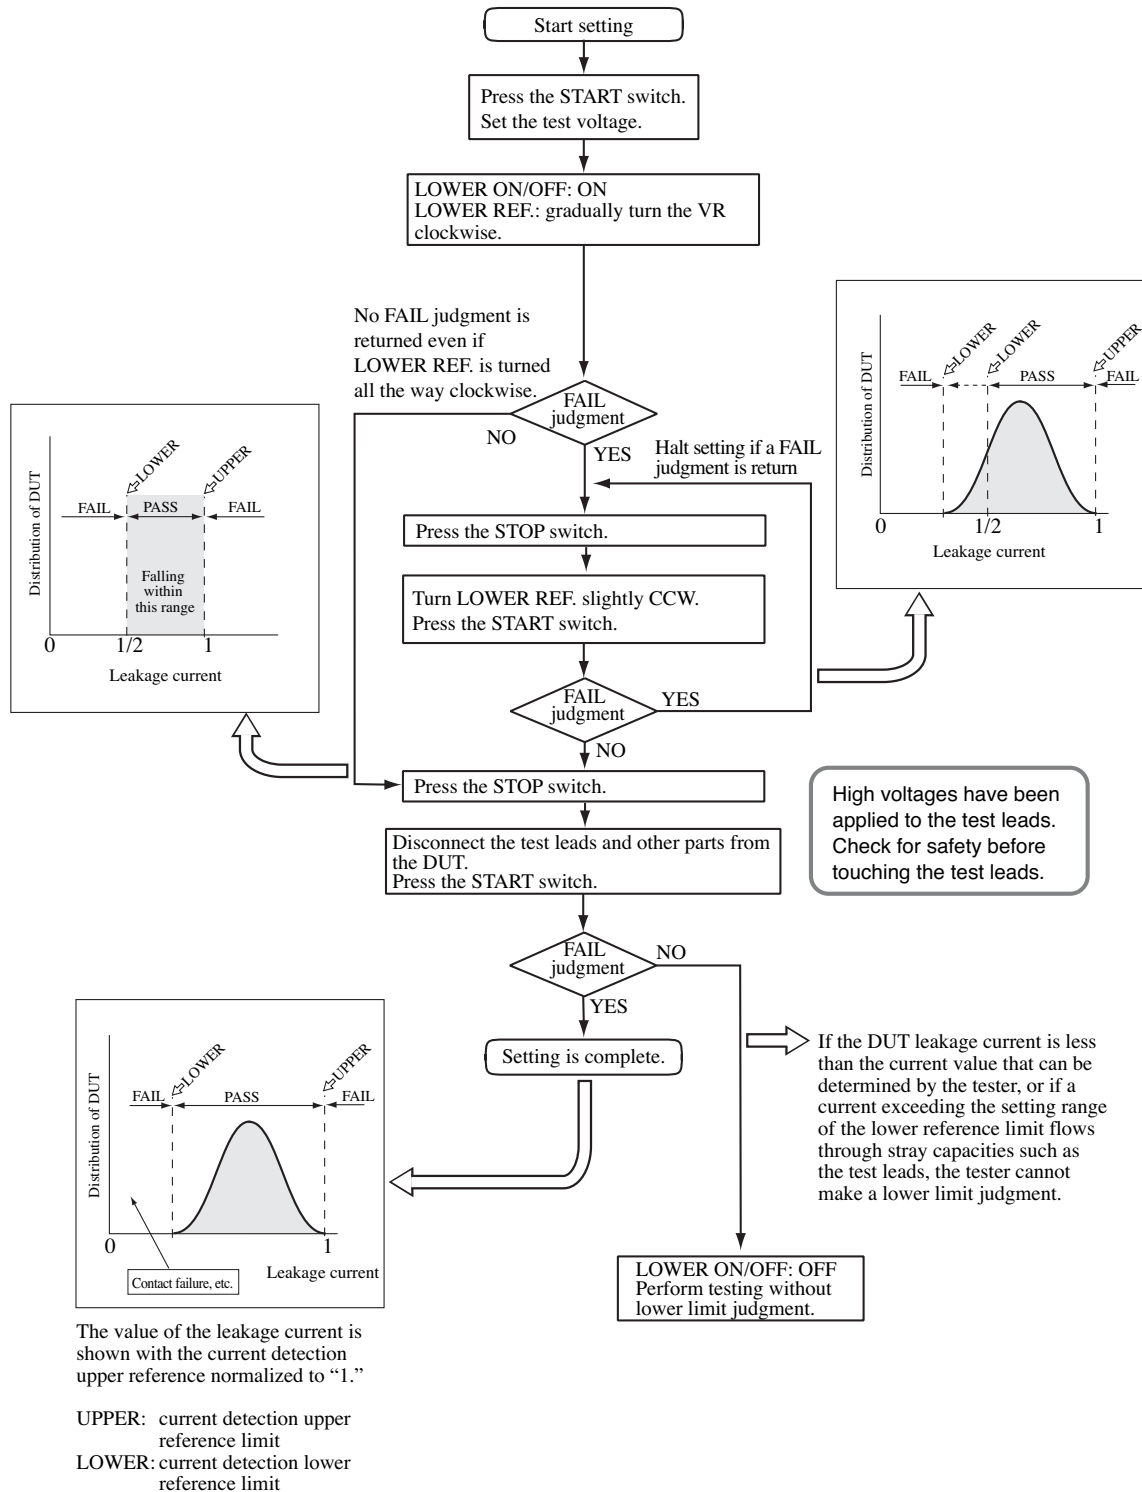

Fig. A-2 Flowchart for Setting the Current Detection Lower Reference Limit
4. Set the lower reference limit as indicated in the flowchart in Fig. A-2.